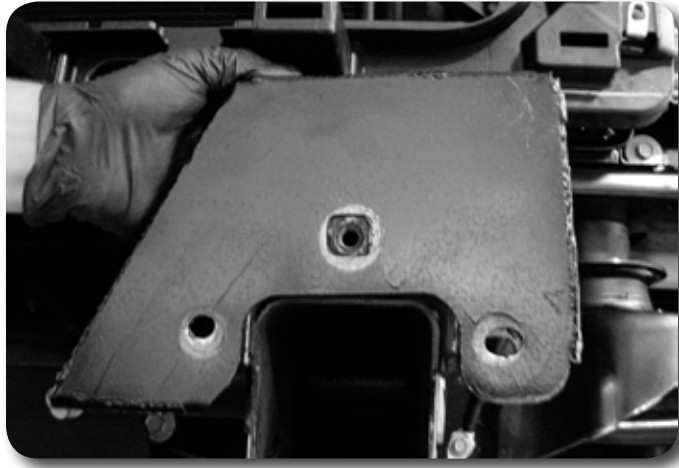

Figure 16
25. Install the new front bumper brackets with the provided 7/16" x 1" bolts and flange lock nuts on each side hole. Using the witness marks of the square hole from the factory bracket, line up the bracket and tighten the 7/16" bolts by hand to hold the position of the bracket. **Figure 16** Re-install the factory bolt at the center location and tighten all hardware.